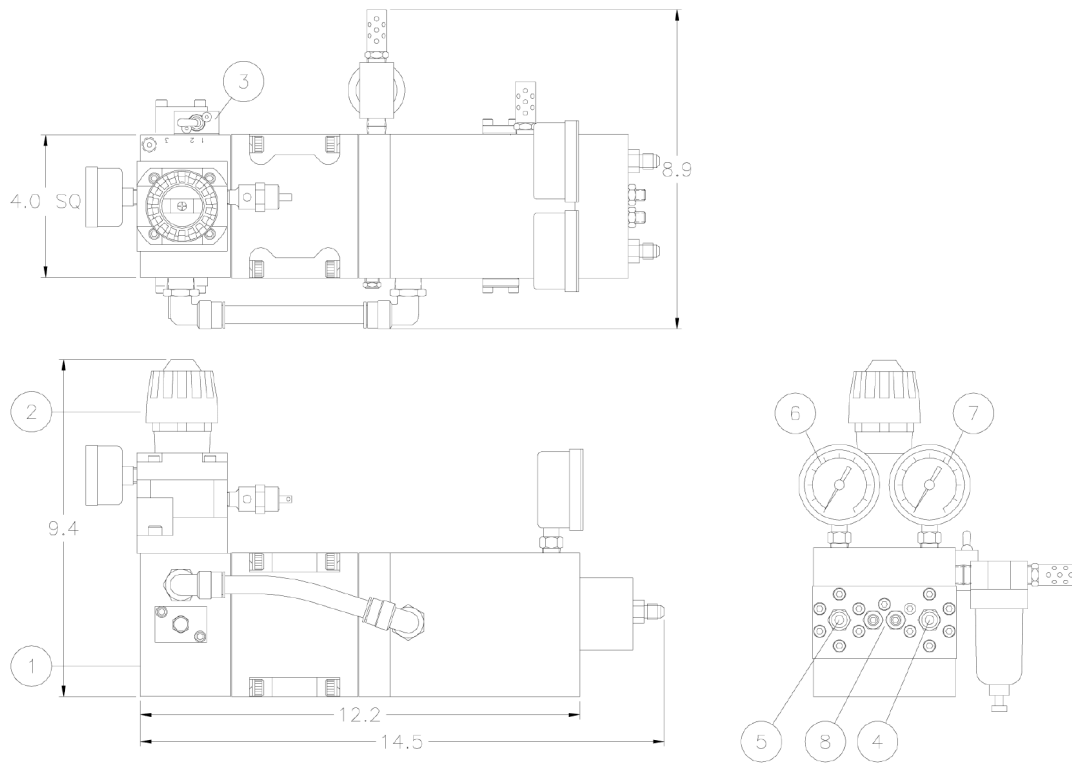

Fig 1a
2.1 Component Description (Refer to Fig. 1a. for component location.)
- 4.1.2 Decrease item 2 (fig 1a) inlet pressure regulator to minimum pressure setting.
- 4.1.4 Connect the output of the gas supply bottle to the gas inlet connection of the Oxygen Booster (See figure 1a).